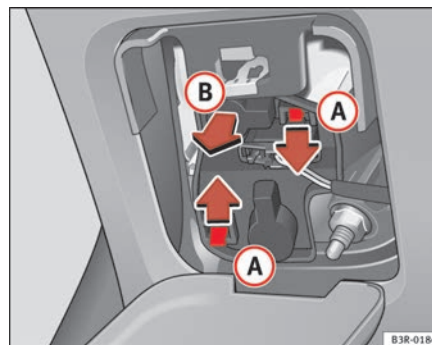

Fig. 216 Remove the bulb holder
- Press on the tabs **(A)** ⇒ page 266, fig. 216 in the direction of the arrows and remove the bulb holder by pulling in the direction of the arrow **(B)**.